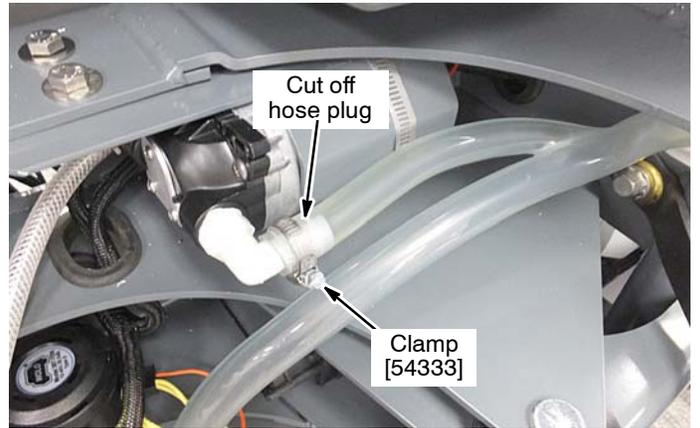

Fig. 20
- Cut end of solution hose to remove hose plug. Using clamp, connect solution hose to pump as shown (Figure 20).